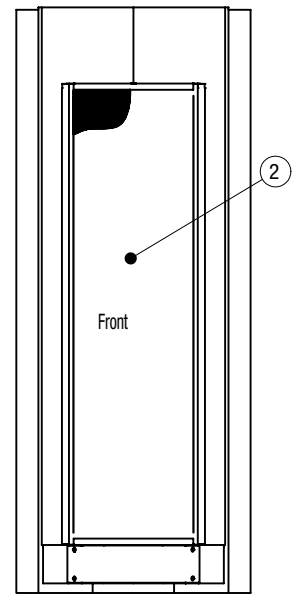

Figure 13
- 5) Install diffuser (item 2) over the mounting angles so that the back of the diffuser is flush with the wall (see figure 13 & 14). Fasten diffuser to mounted angles with screws (item 5). Use minimum 2 screws per side of diffuser. Base cover may need to be removed to access duct for bottom ducted units if one was supplied.
Figure 13 b